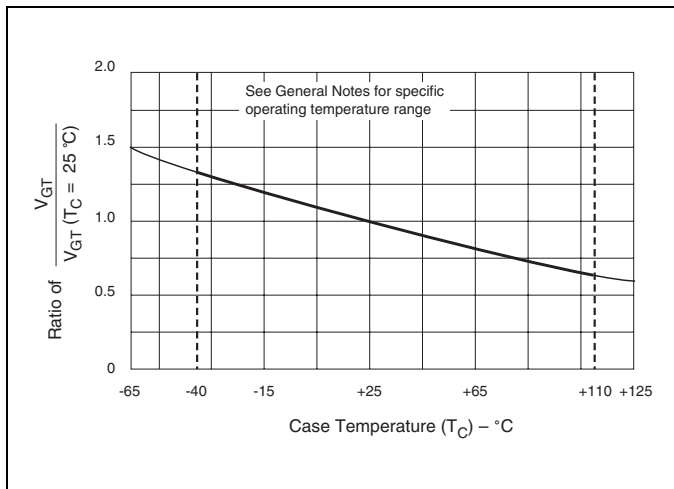

Figure E5.12 Normalized DC Gate-Trigger Voltage versus Case Temperature
- (4) See Figure E5.12 for VGT versus TC or TL.